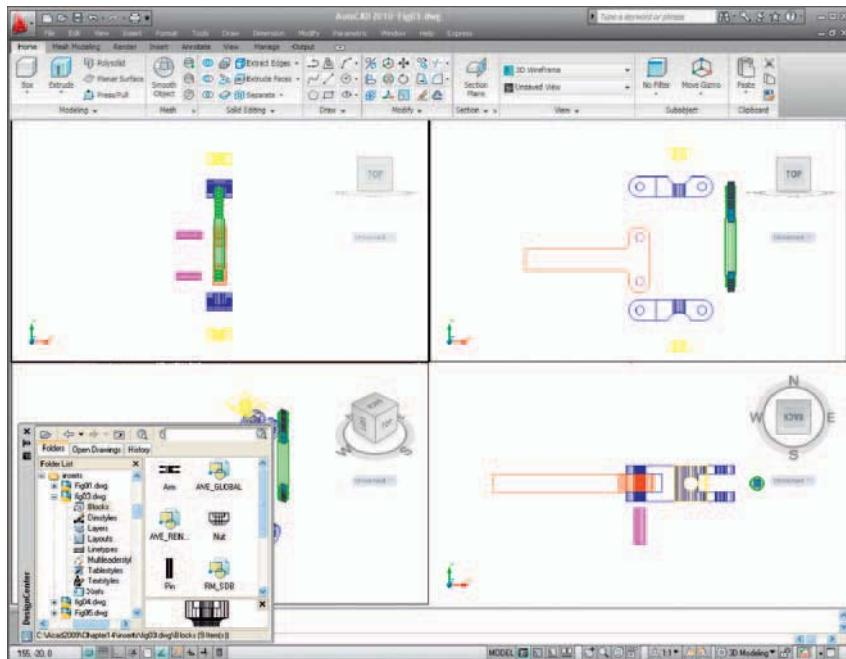

Fig. 14.3 First example – Inserting 3D blocks
6. *Drag and drop* the blocks one by one into one of the viewports on screen. Figure 14.3 shows the **Nut** block ready to be *dragged* into the **Right** viewport. As the blocks are *dropped* on screen, they will need moving into their correct positions in suitable viewports using the **Move** tool from the **Home/Modify** panel.